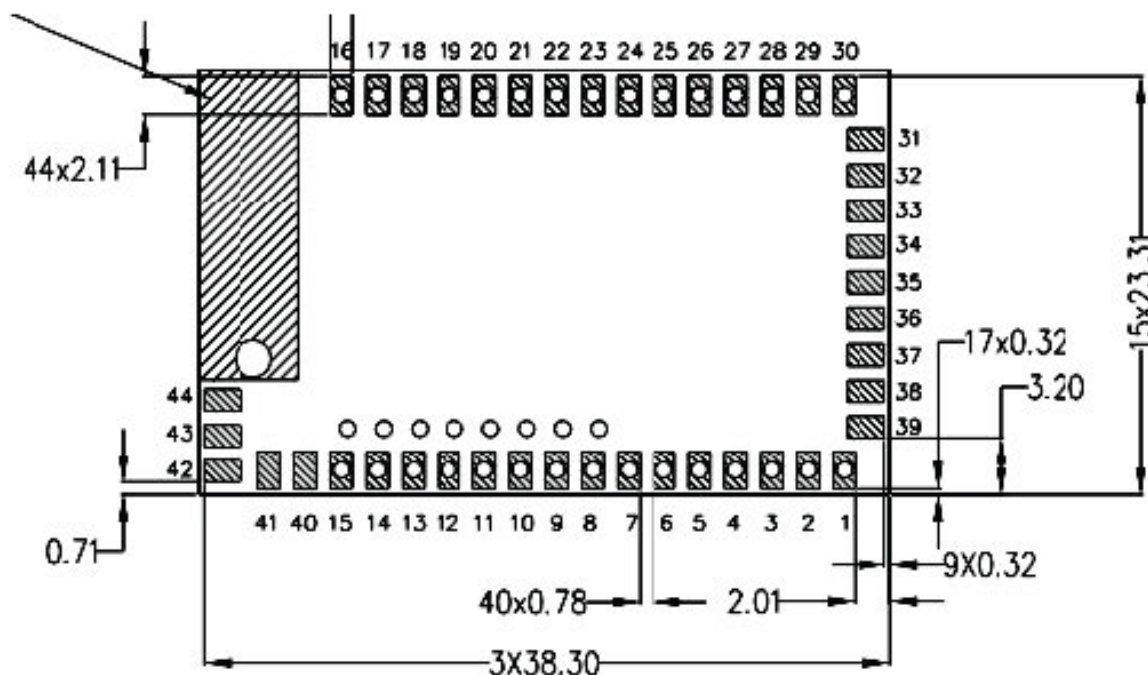

Figure 13.EMW3162 bottom view (Metric units)
- Sealed packaging is equipped with humidity indicator card, as shown in Figure 13.